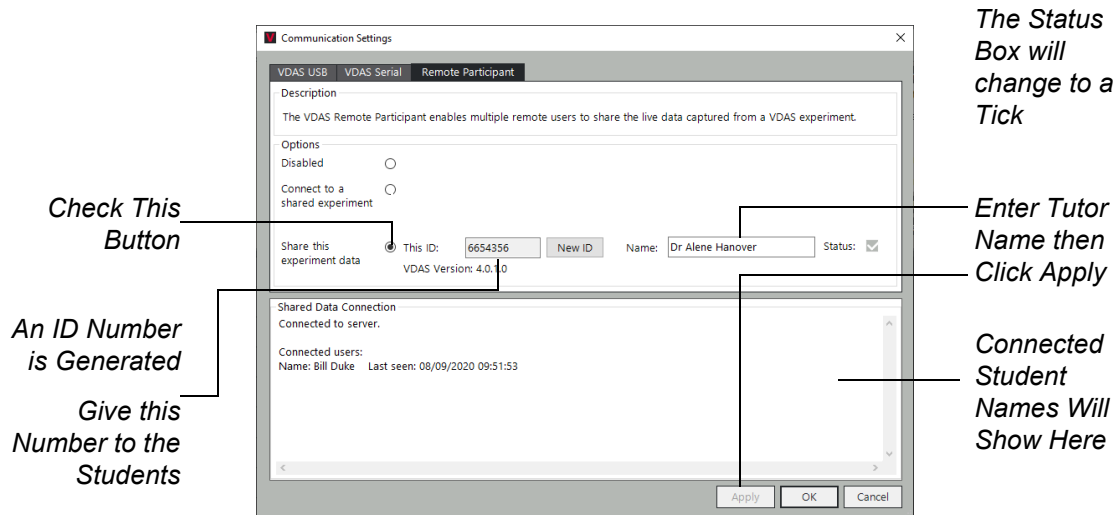

Figure 15 Communications Settings Dialogue Box
1. Select: Connection, Communication Settings to open the Communication Settings dialogue box (Figure 15).